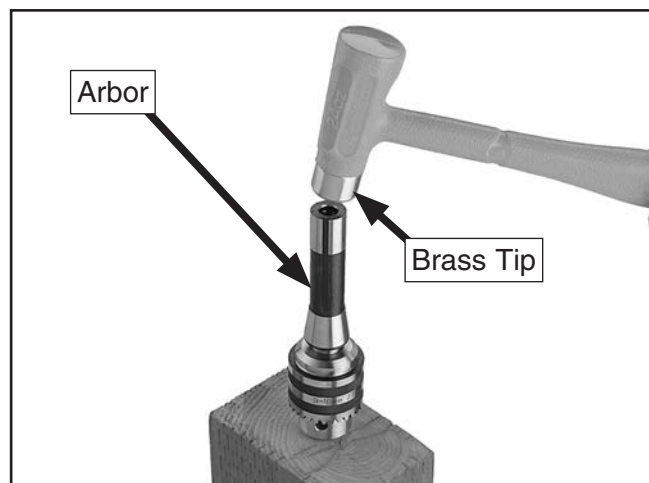

Figure 38. Drill chuck.
3. Insert the arbor into the drill chuck. Tap the arbor lightly with a brass or other soft-headed hammer, as shown in **Figure 38** to get a good fit.